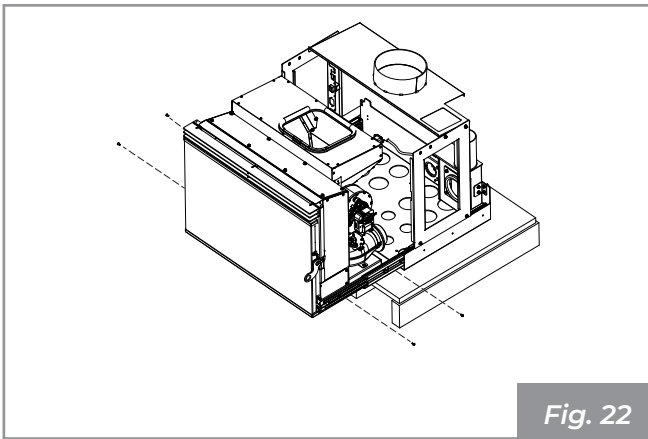

Fig. 22
- Unscrew the four screws securing the rails located on the sides of the machine (**Fig. 22**).